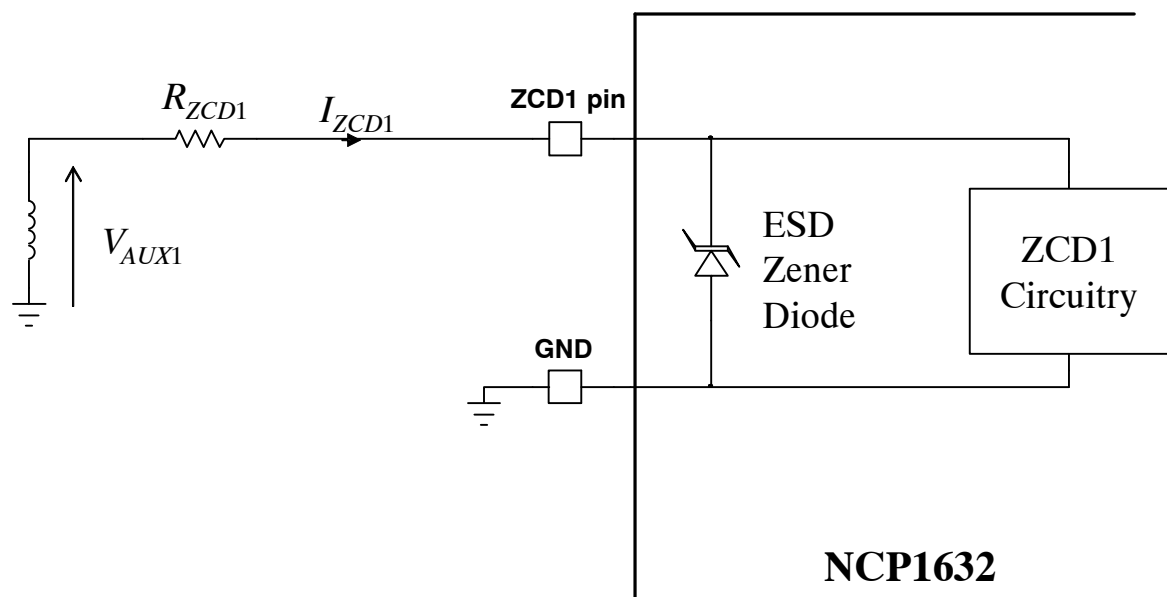

Figure 2. Limit the ZCD1 pin current ( $I_{ZCD1}$ ) between  $-5\text{ mA}$  and  $5\text{ mA}$  (the same is valid for the ZCD2 pin)
- These maximum ratings (-0.3 V / 9.0 V) guarantee that the internal ESD Zener diode is not turned on. More positive and negative voltages can be applied to the ZCD1 pin if the ESD Zener diode current is limited to 5 mA maximum. Typically, as detailed in the Zero Current Detection section, an external resistor is to be placed between the ZCD1 pin and its driving voltage to limit the ZCD1 source and sink currents to 5 mA or less. See Figure 2 and application note AND9654 for more details. The same is valid for the ZCD2 pin.